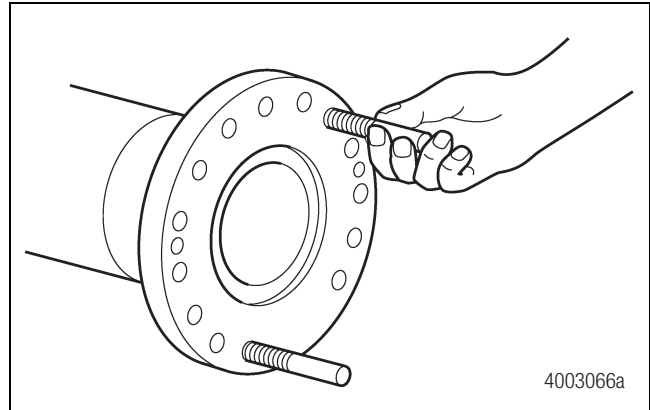

Figure 3.31
2. Thread two 5/8-inch-11 studs (or capscrews with the heads removed) into the housing 180 degrees apart. The studs will support the spindle and brake during assembly. Figure 3.31.